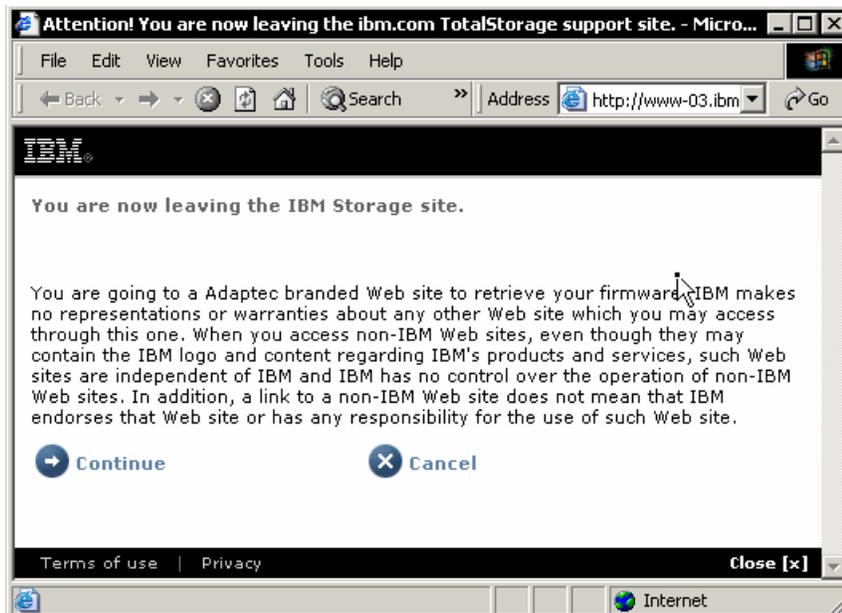

Figure 9 DS400 firmware download redirect
2. A message box appears warning that you are leaving the IBM Storage Web site, as shown in Figure 9. Click **Continue**.